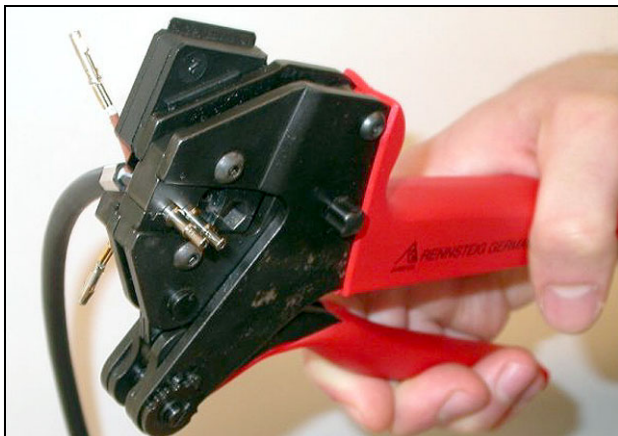
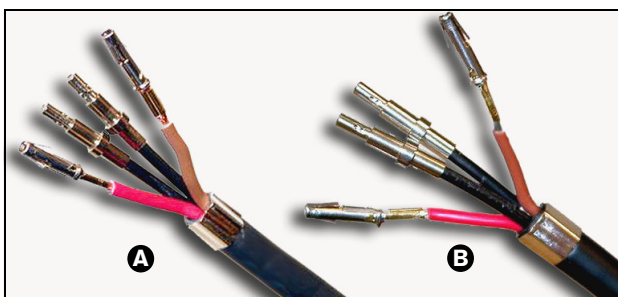

figure 22.25: Crimping ferrules (3)
figure 22.26: Ferrules on fibers
- 25 Crimp the ferrules on the sheath using the crimping tool (tool 3, see figure 22.25). See figure 22.26 for the result of this part of the cable-connector mounting procedure.